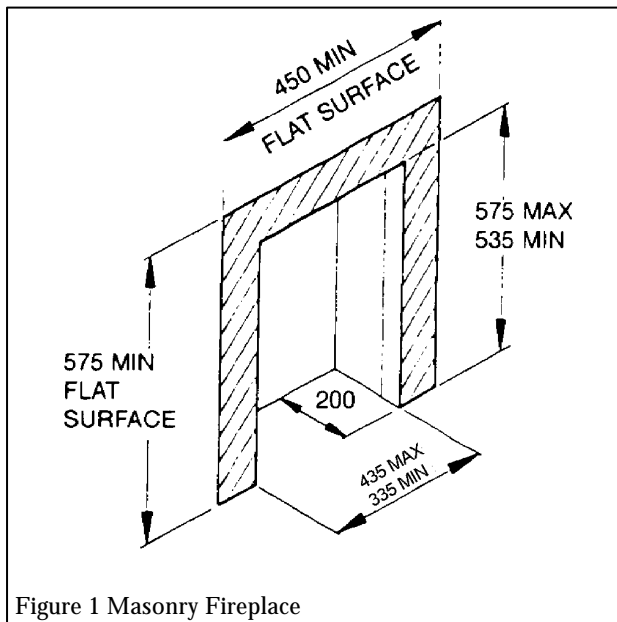

Figure 1 Masonry Fireplace
1. A masonry chimney with a minimum diameter of 175mm (7") free from any obstruction, and with any damper or restrictor plate in the chimney removed or secured, and having a minimum effective flue height of 3m (10ft). Note the relevant flat surface area requirement (Figure 1). A masonry chimney having a correctly installed flue liner to BS715 and with a minimum flue diameter of 125mm is also acceptable. Chair brick removal may not be required providing at least 50mm clearance is available from the flue outlet to any fireplace component. The appliance is designed to cater for low lintel installations (min height 505mm) providing a minimum distance of 25mm is maintained between the lintel and the front face of the fireplace (i.e. 25mm rebated fire surround).